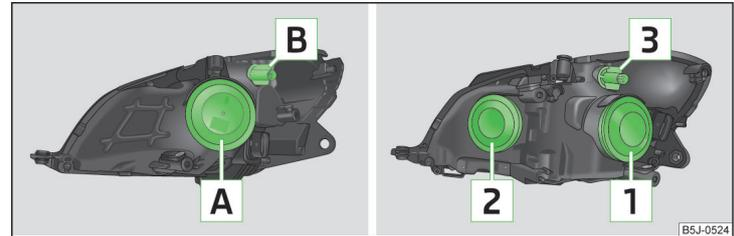

Fig. 154 Bulb arrangement: Halogen headlights/halogen projector headlights
➤ Remove the rubber cover **A** » Fig. 154 on page 171.
- Remove the rubber cover **1** » Fig. 154 on page 171.
- Remove the rubber cover **2** » Fig. 154 on page 171.
- Remove the bulb holder **B** » Fig. 154 on page 171 or the bulb holder **3** to the stop in an **anti-clockwise** direction and remove with the bulb for the turn signal.
- Remove rubber cover **A** » Fig. 154 on page 171 or **2**.